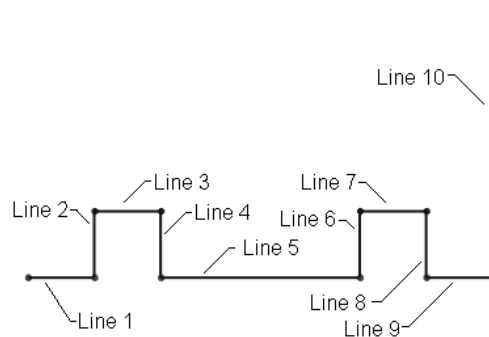

Figure 2-66 Partial outer loop of the sketch
- Draw the sketch of the model using the **Line** and **Circle** tools, refer to Figures 2-66 through 2-70.
4. Press the left mouse button when the length of the line displayed above the line cursor shows a value of 10. Horizontal line is created. Refer to Line 1 in Figure 2-66.
6. Press the left mouse button when the length of the line displayed above the line cursor shows a value of 10. Vertical line is created. Refer to Line 2 in Figure 2-66.
7. Move the line cursor horizontally toward the right. Press the left mouse button when the length of the line above the line cursor shows a value of 10; the next horizontal line of 10 mm length is drawn. Refer to Line 3 in Figure 2-66.
8. Move the line cursor vertically downward and press the left mouse button when the length of the line on the line cursor shows the value 10. Refer to Line 4 in Figure 2-66.
9. Move the line cursor horizontally toward the right and press the left mouse button when the length of the line on the line cursor shows the value 30. Refer to Line 5 in Figure 2-66.
10. Move the line cursor vertically upward and press the left mouse button when the length of the line on the line cursor shows the value 10. Refer to Line 6 in Figure 2-66.
11. Move the line cursor horizontally toward the right and press the left mouse button when the length of the line on the line cursor shows the value 10. Refer to Line 7 in Figure 2-66.
12. Move the line cursor vertically downward and press the left mouse button when the length of the line on the line cursor shows the value 10. Refer to Line 8 in Figure 2-66.
13. Move the line cursor horizontally toward the right and press the left mouse button when the length of the line on the line cursor shows the value 10. Refer to Line 9 in Figure 2-66.
14. Move the line cursor vertically upward and press the left mouse button when the length of the line on the line cursor displays the value 40. Refer to Line 10 in Figure 2-66.